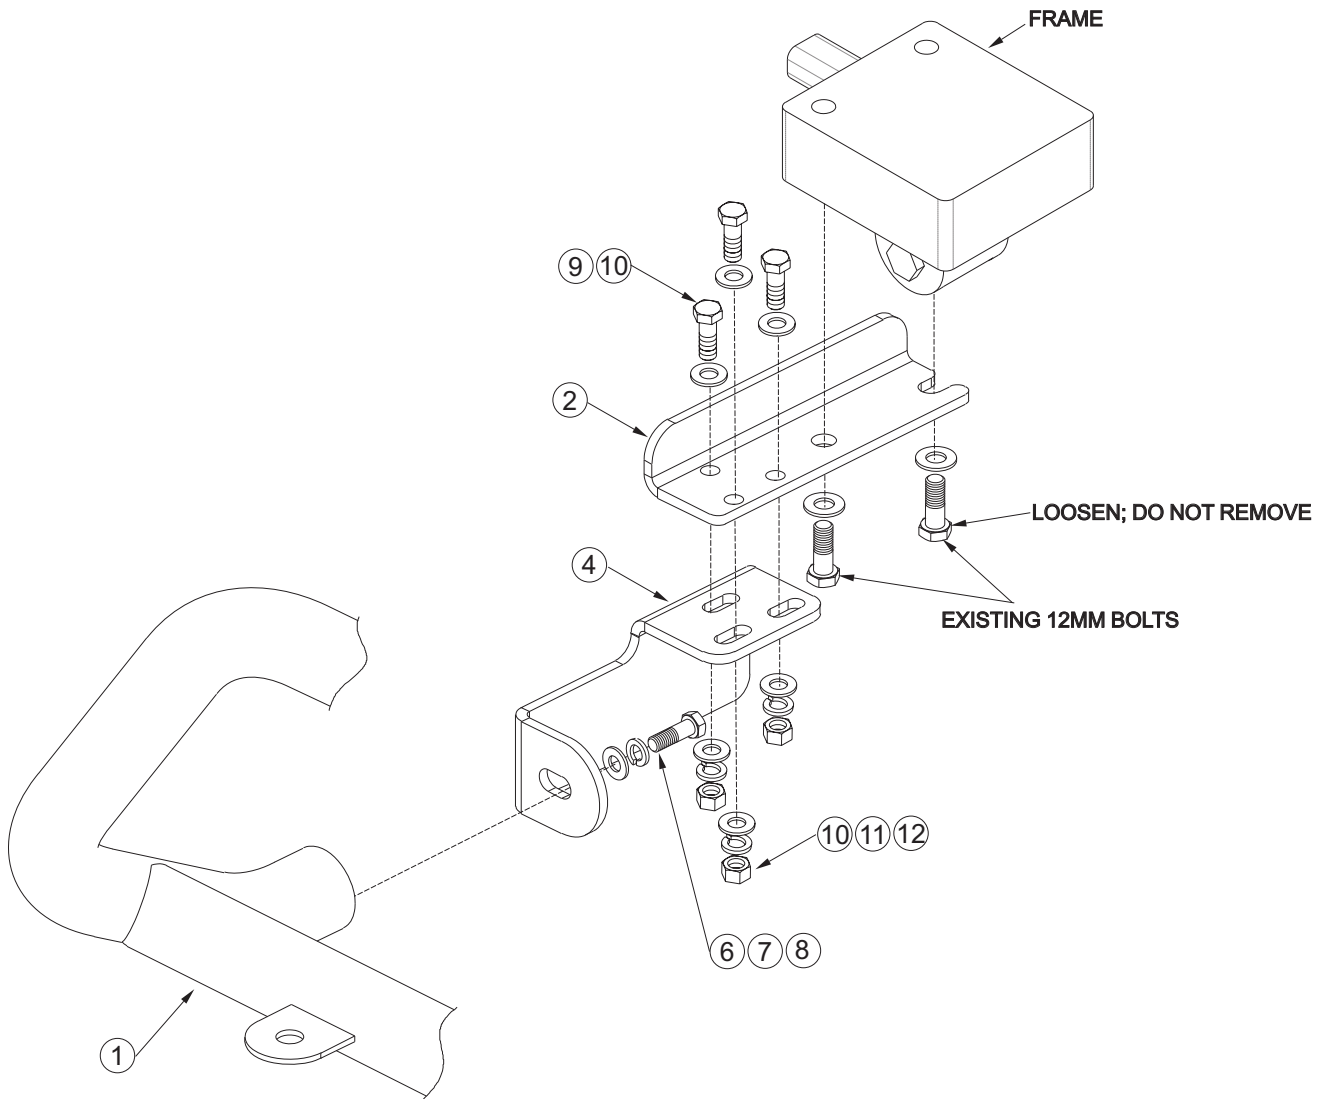

FIGURE 1 INSTALLATION VIEW OF PASSENGER SIDE, DRIVER SIDE OPPOSITE
- STEP 2. Determine passenger and driver top and bottom brackets. Assemble brackets as shown using 3/8" yellow zinc fasteners. Leave loose. **SEE FIGURE 1.**
- STEP 4. Slide appropriate Safari Bar bracket onto rear bolt. Reinstall front bolt and tighten both hand tight. Repeat for opposite side of vehicle. **SEE FIGURE 1.**